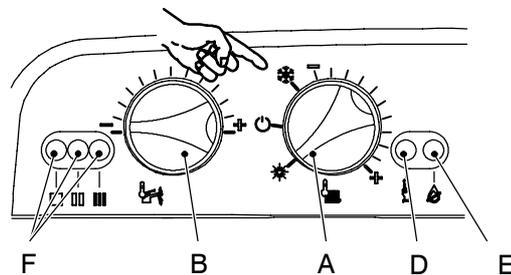

Fig. 15
- 4 Turn the boiler ON positioning the function selector knob A as indicated in Fig. 15 (M96A.24SM/..., M96A.28SM/..., M96A.32SM/...) and ensure that the timer selector switch and room thermostat, if fitted, are set to "heat demand". Run the boiler in c.h. mode (do not open any d.h.w. tap).